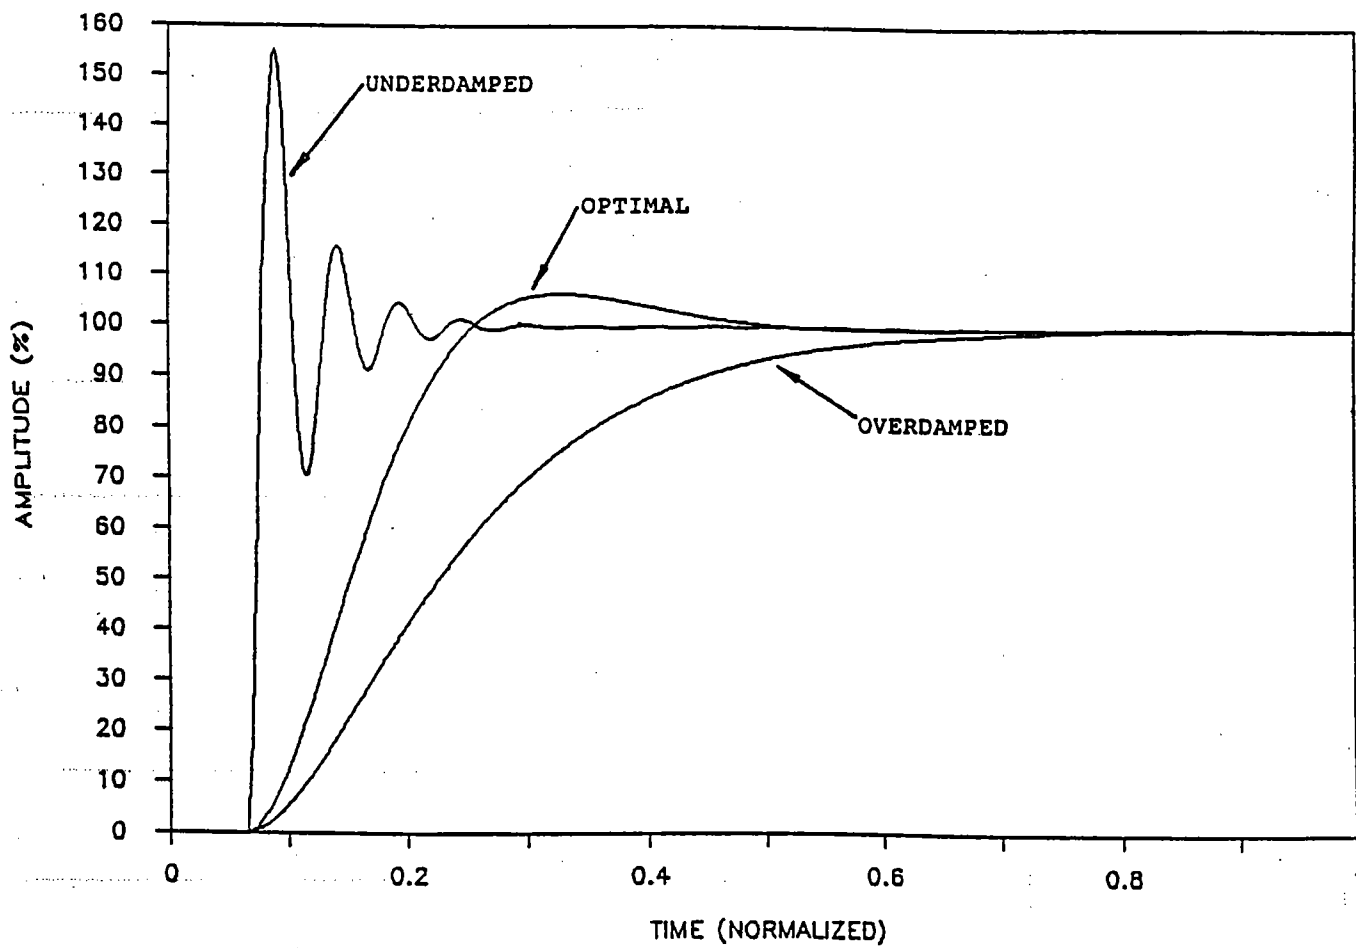

Figure 4: Typical Velocity Response Waveforms
- 7) Slowly adjust the potentiometer CW while observing the signal from the tach. When the signal appears similar to that of the middle curve shown in figure 4, the amplifier is properly adjusted.
Note the following are characteristics of the desired waveform: slight overshoot, minimum ringing, relatively fast rise time. Figure 4 also shows curves typical of those which might be observed with the potentiometer in the extreme positions.